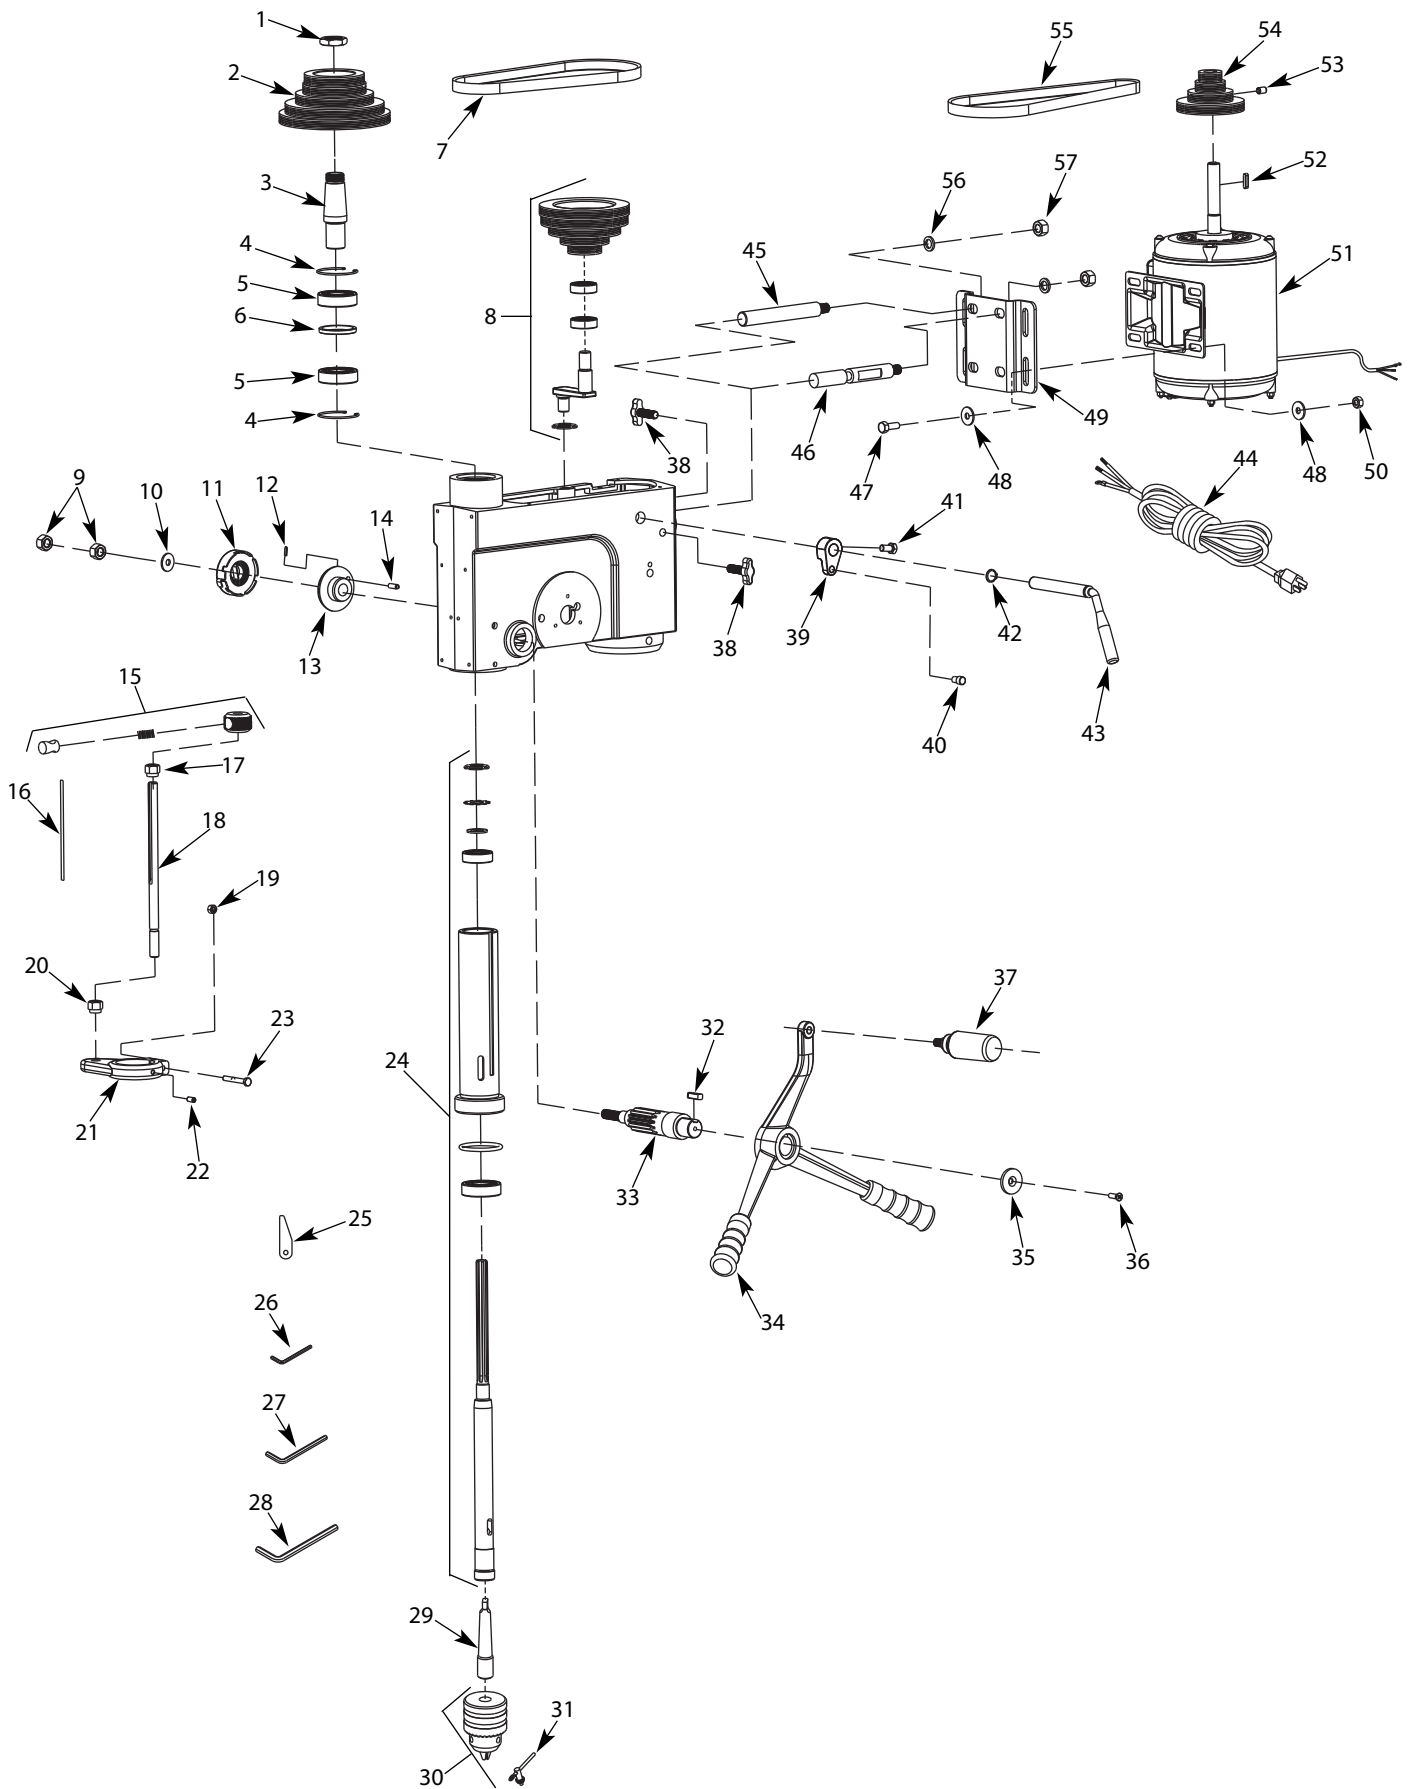

Figure 8 - Replacement Parts Illustration for Spindle and Drive
Refer to Figure 8.
- Lower quill assembly (Figure 8, Ref. No. 24) all the way down.
- Apply lubricant around the inside of the hole in the spindle pulley (Figure 8, Ref. No. 2).
- Apply lubricant to rack (teeth) on quill (Figure 8, Ref. No. 24) while extended below drill press head.